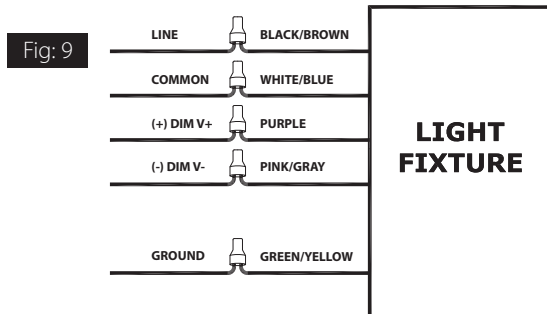

Fig: 9
2. Make appropriate wire connections per NEC in an approved enclosure (*not included*) see **Fig. 9**.
2. Make appropriate wire connections per NEC in a approved enclosure (not included) see Fig 9.
Universal voltage driver permits operation at 120V thru 277V, 50 or 60 Hz. For 0-10 Dimming, follow the wiring directions as shown in Fig. 9.